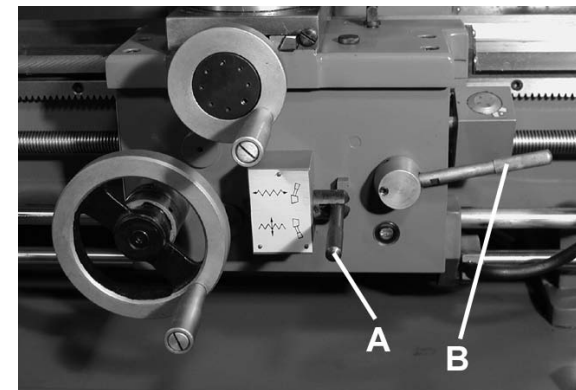

FIGURE 17
The power feed lever (A) Fig.17 is used to engage either the longitudinal or cross feed. This lever has a safety interlock to prevent accidental engagement of the half nuts when the lathe is in feed mode. There are 3 positions; the upper position engages the power longitudinal feed, the lower position engages the power cross feed and the center position is the disengaged position.
Move the thread cutting engagement lever (B) Fig.17 downwards, this will make it engage with the leadscrew for longitudinal travel of the carriage. Make sure the power feed lever (A) is disengaged (in neutral position) before operating the thread cutting engagement lever (B), note: a safety interlock prevents accidental engagement of the half nuts when the lathe is in feed mode.